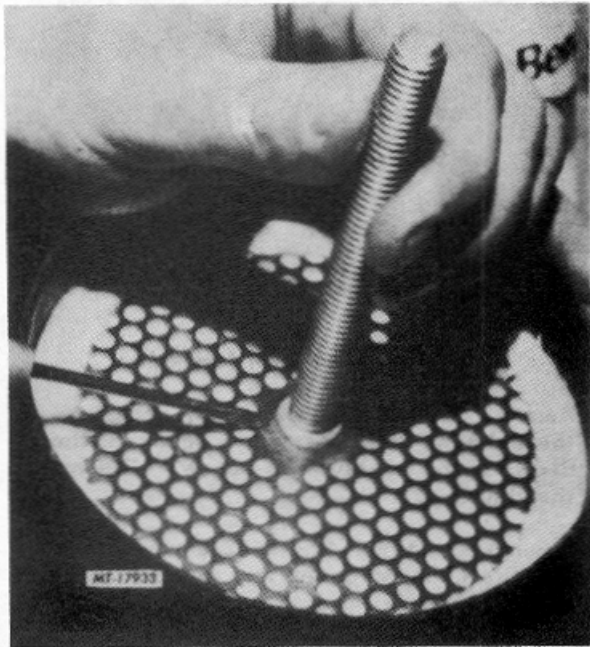

Fig. 14 Installing Second Perforated Plate
Before tightening the lock nut down, make certain that the shoulder (unthreaded portion) of the cartridge bolt extends slightly above the perforated desiccant plate (see Fig. 14).
- Level the desiccant material and install second perforated plate, felt cloth down. Make sure the shoulder of the bolt is centered and extends slightly above the top of the perforated plate (Fig. 14).